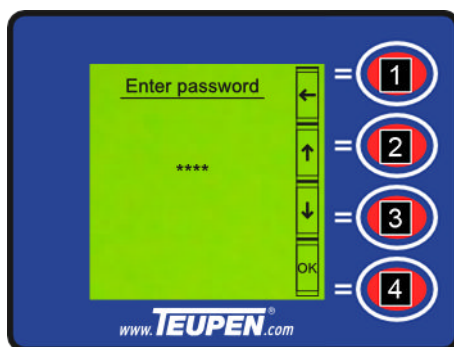

Fig. 67: Enter password
1. → Press the [function key] (Fig. 67/4).
2. → Select the desired digit with the [function keys] (Fig. 67/2 and 3).
3. → Use the [function key] (Fig. 67/4) to confirm the selected digit.
→ Use the [function key] (Fig. 67/1) to return to the 'Main menu'.